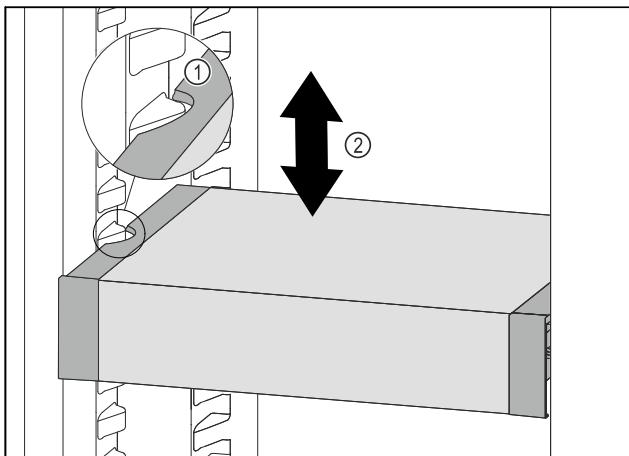

Fig. 102
- ▶ Pull VarioSafe forwards until the recesses in the side of the VarioSafe are at the level of the support rib in the refrigerator compartment. Fig. 102 (1)
- ▶ Move VarioSafe up or down in the refrigerator compartment until the desired height is reached. Fig. 102 (2)